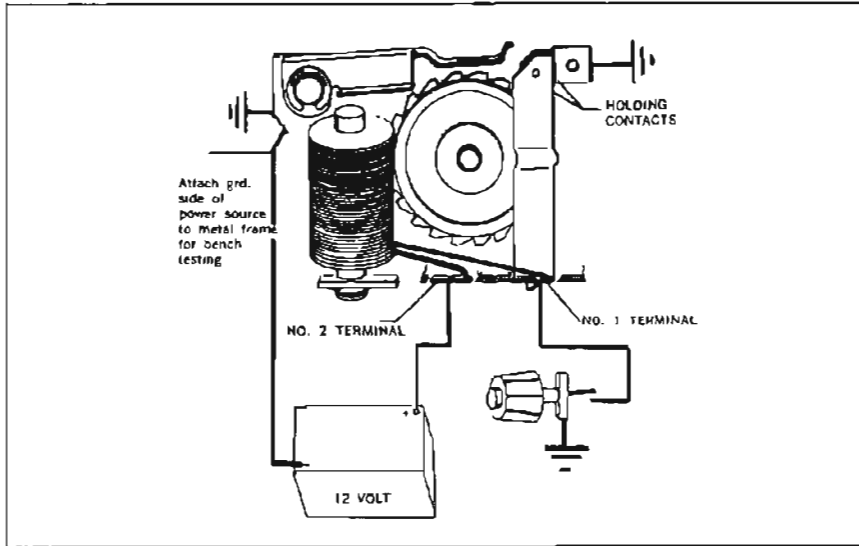

Figure 10-90—Washer Pump Wiring Diagram
Depressing the dash switch washer button closes the washer pump relay circuit to ground. (Refer to Figure 10-90). NOTE: If wiper was "off" the wiper switch is mechanically turned to the "on" position by the washer button.
1. Remove washer pump cover and connect 12 volt power supply to washer pump as shown in Figure 10-90. Connect jumper wire from terminal No. 1 to ground. Turn ratchet pawl to the position shown in Figure 10-90. Ratchet